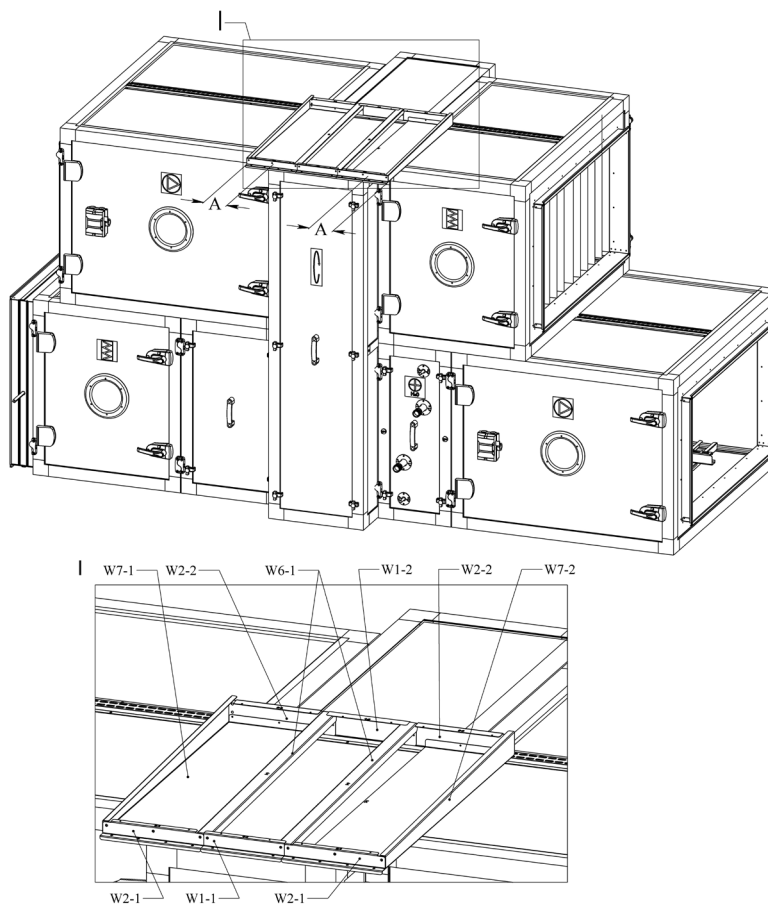

Figure 11.2
2. Start the assembly from the widened section. Connect longitudinal edge supports W2-1, W2-2 to the rear supports W7-1, 7-2 and W6-1-transverse supports using self-taping screws supplied with the unit as shown in Figure 11.2 (I).
3. Connect the longitudinal center supports W1-1, W1-2, W3-1, W3-2, W4-1, W4-2 or W5-1, W5-2 to each other (depending on the length of the unit) using self-taping screws supplied with the unit and connect end-to-end edge supports W2-1, W2-2 as shown in Figure 11.2. (I).
4. The combined entire frame of the details must be centered according to the length of the unit, the distance A must be the same on both sides as shown in Figure 11.2. A distance can be between 50 – 150 mm.